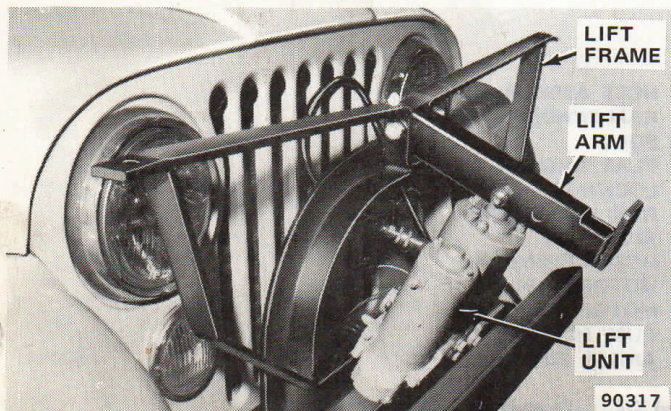

Fig. 1-16 Lift Unit, Frame and Arm Installation
- (1) Disconnect negative battery cable.
- (2) Position lift unit with electric motor on right side of vehicle. Attach lift unit to lift frame and lift arm using bolts and locknuts (fig. 1-16).